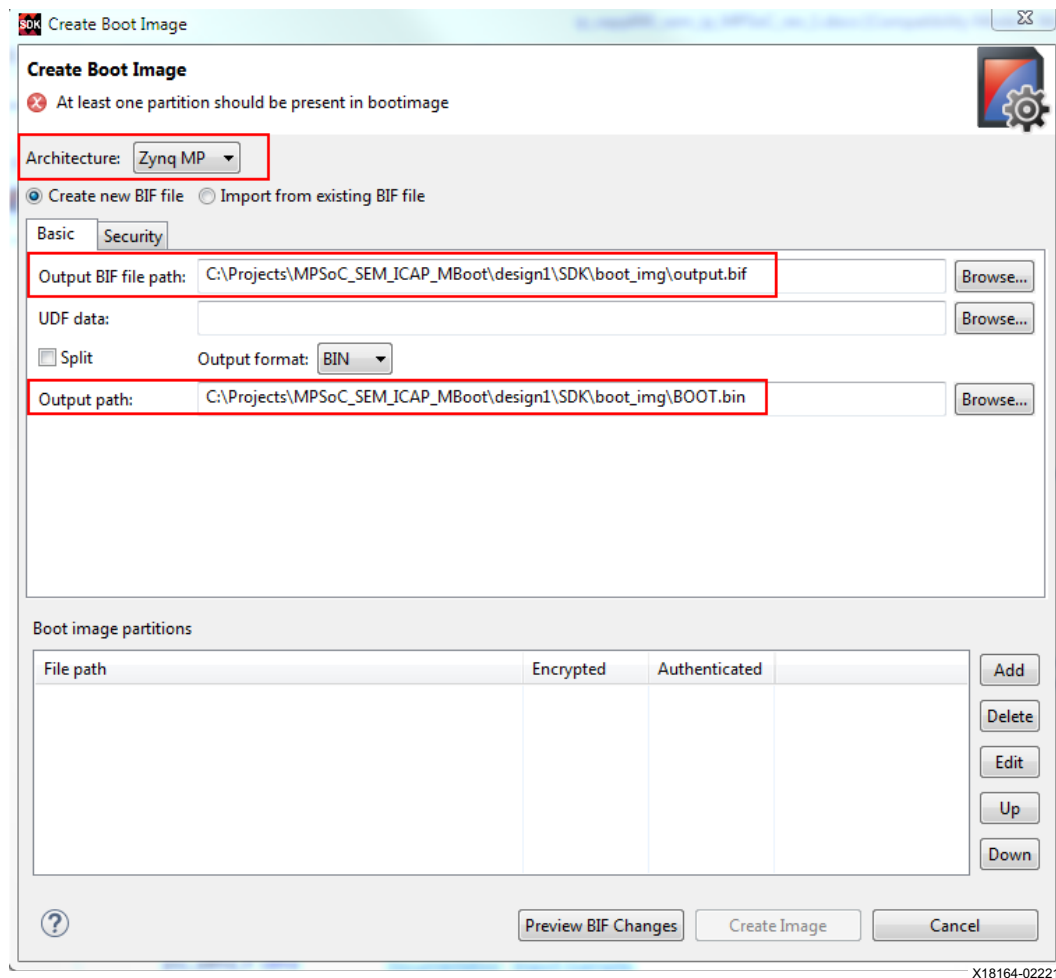

Figure 13: Design 1 - Create Boot Image
- a. Verify the Output path is the same as the Output BIF file path. See Figure 13.